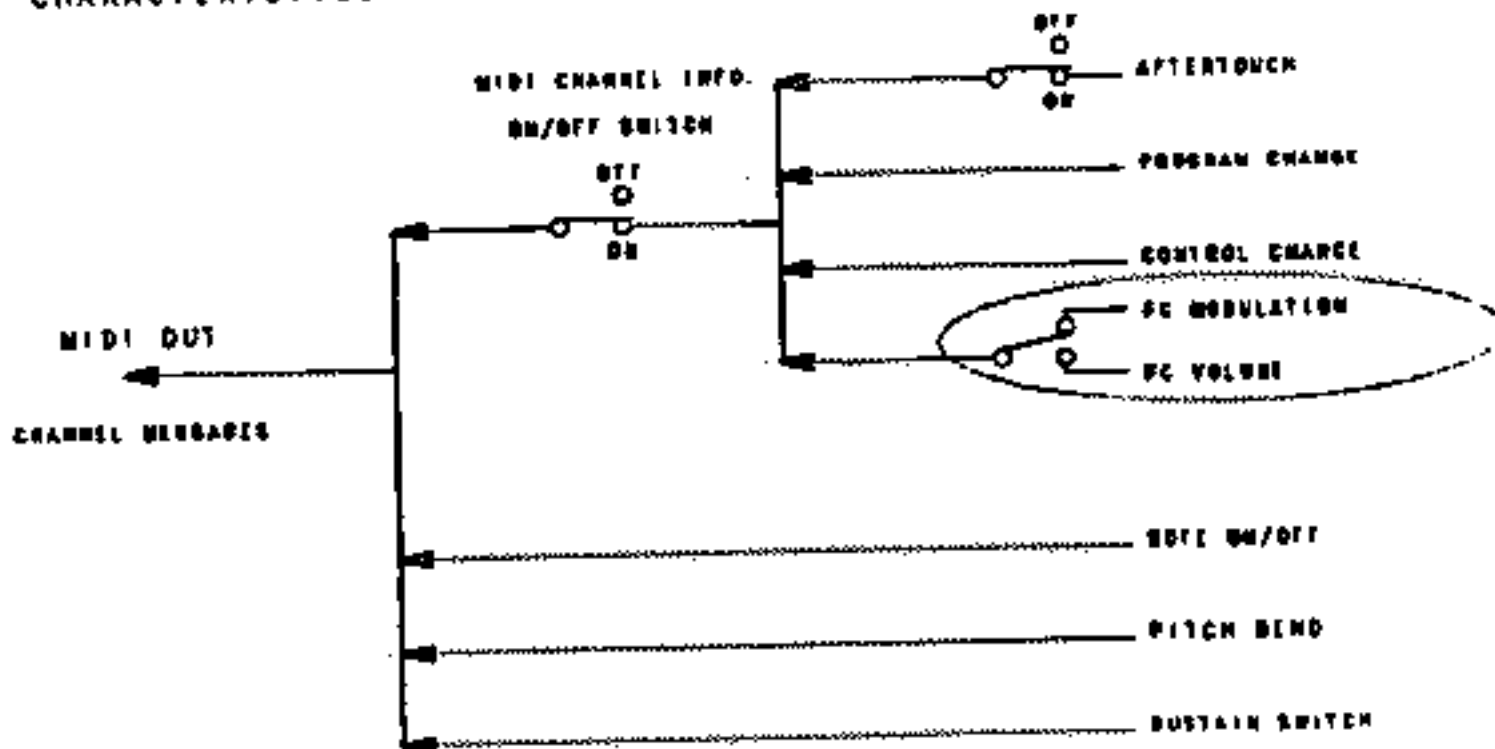

FIGURE 13A
FIGURES 13A and 13B show diagrams of the TRANSMIT and RECEIVE characteristics when the FC VOLUME INFORMATION FUNCTION is set to the OFF condition. The FC VOLUME INFORMATION FUNCTION is a TRANSMIT FUNCTION. In the OFF condition the DX7 will TRANSMIT FOOT CONTROLLER (FC) MODULATION INFORMATION provided the MIDI CHANNEL INFORMATION FUNCTION is set to the "ON" condition. In the RECEIVE MODE, even with the FC VOLUME INFORMATION FUNCTION set to the "OFF" condition the DX7 will still RECEIVE both FC MODULATION and VOLUME INFORMATION, once again, provided the MIDI CHANNEL INFORMATION FUNCTION is set to the "ON" condition.